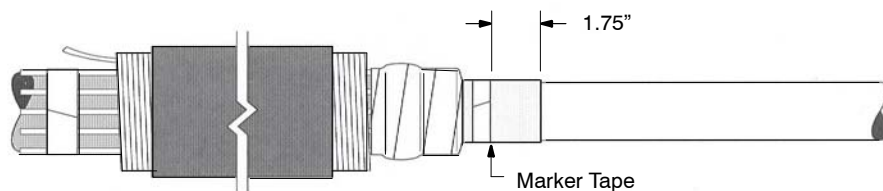

Figure 6
- 8. Place a marker tape on the cable semi-con located 1.75" from the end of the semi-con. (Figure 6)